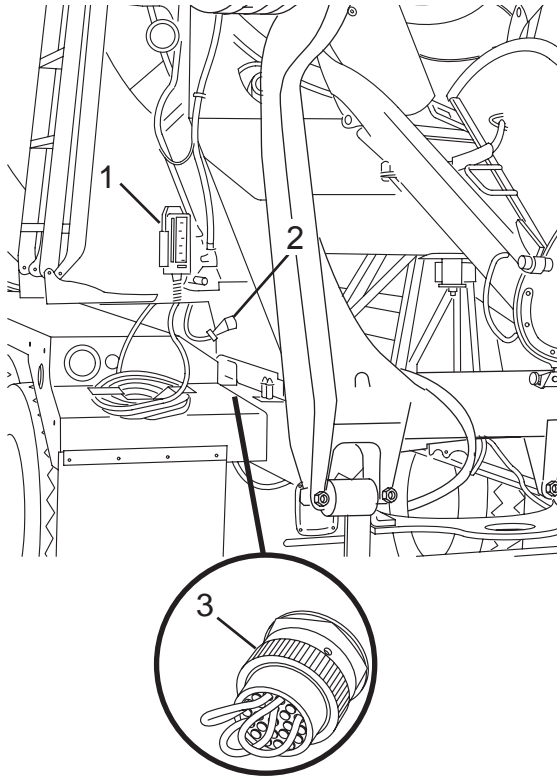

Figure 56
2. Disconnect the rear pendant harness connector (Figure 56, Item 2) from the rear pedestal.
3. Install a jumper plug (Figure 56, Item 3) into the rear pendant harness connector. Purchase the jumper plug from [www.streetsmartparts.com](http://www.streetsmartparts.com) or by calling Revolution Parts at (855) 202-6491.
If the rear pendant (Figure 56, Item 1) is lost, or becomes damaged or faulty, a jumper plug (Figure 56, Item 3) must be installed in the rear pendant socket to allow operation of control functions from the cab control box.